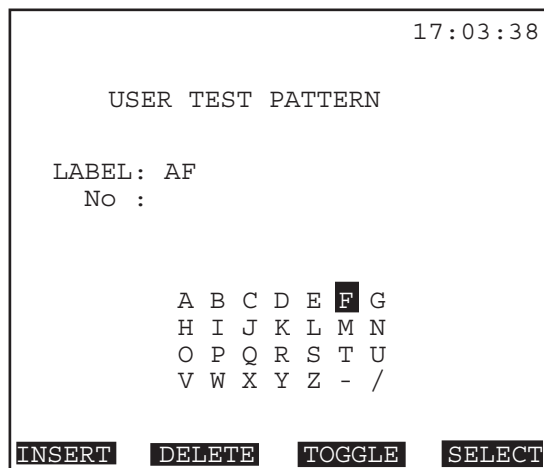

Figure 26 User Test Pattern Screen
- 3) Choose CREATE (F1). The cursor appears at the LABEL position on the USER TEST PATTERN screen, as in Figure 26.